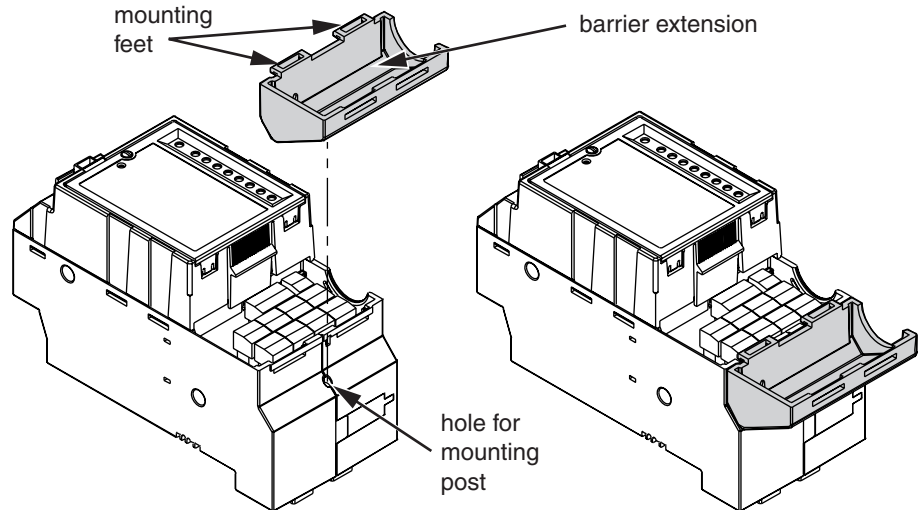

Figure 2: Installing the barrier extension
4. There is a mounting post on the bottom of the barrier extension. Line up the mounting post above the hole on the controller (see Figure 2).
5. Insert the mounting post into the hole, and push down until the mounting feet on the barrier extension snap onto the end of the controller (see Figure 2).